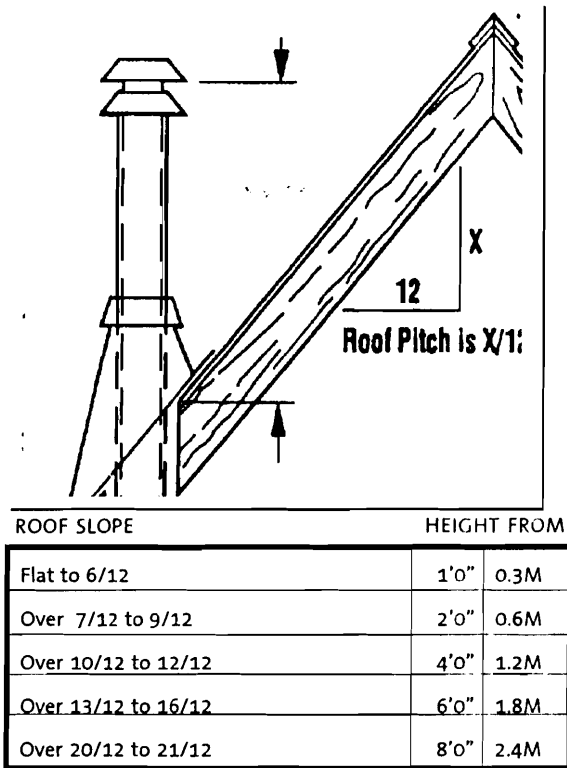

Figure 4. Vertical Vent Termination Height.
- **Vertical Termination Height:** In no case shall any discharge opening on the cap be less than 2' (610 mm) horizontally from the roof surface. See Figure 4.